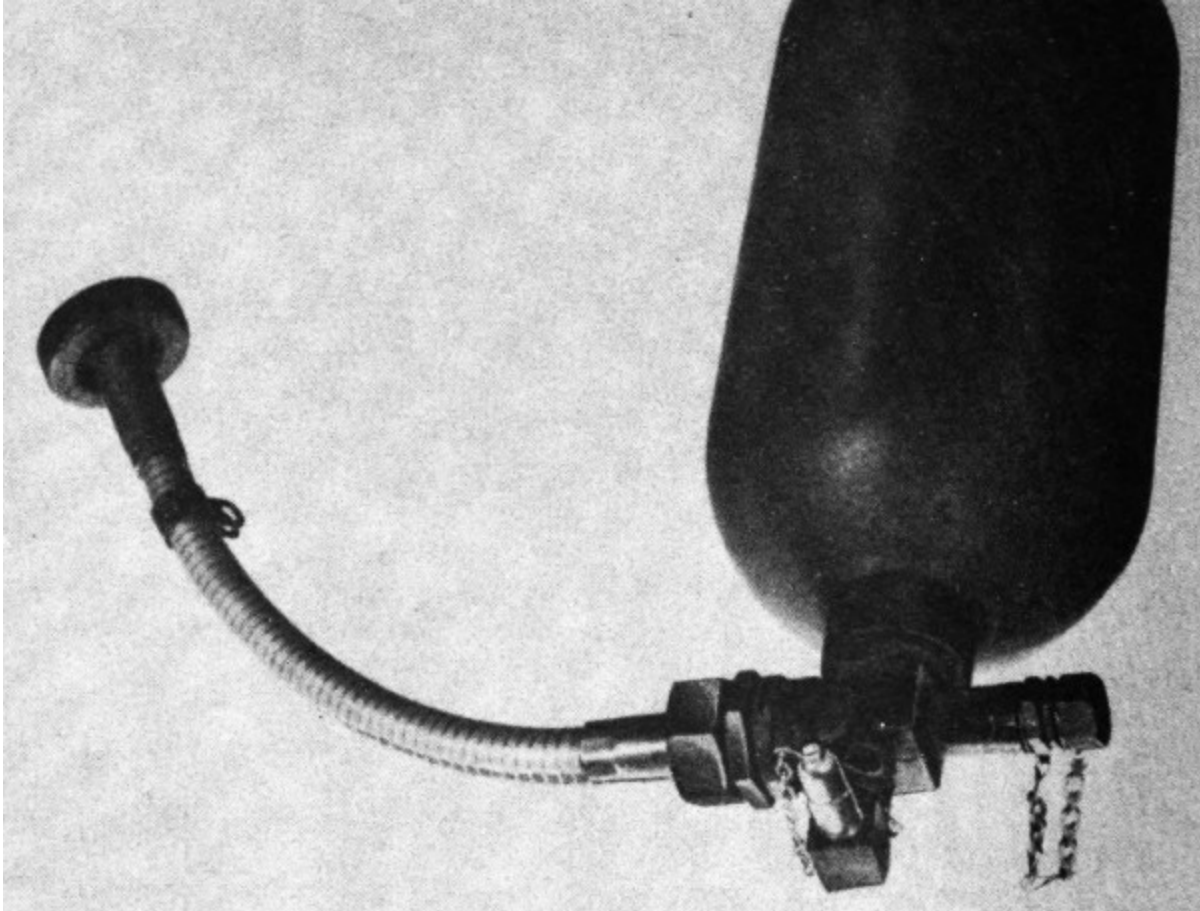

FIGURE 35.6. (Added.) Pressure tank and valve assembly with dust cap over plug opening.
(6) Put cap as far as it will go over opening of the plug. (See fig.35.6.) This prevents dust and other foreign matter from entering empty pressure tank.